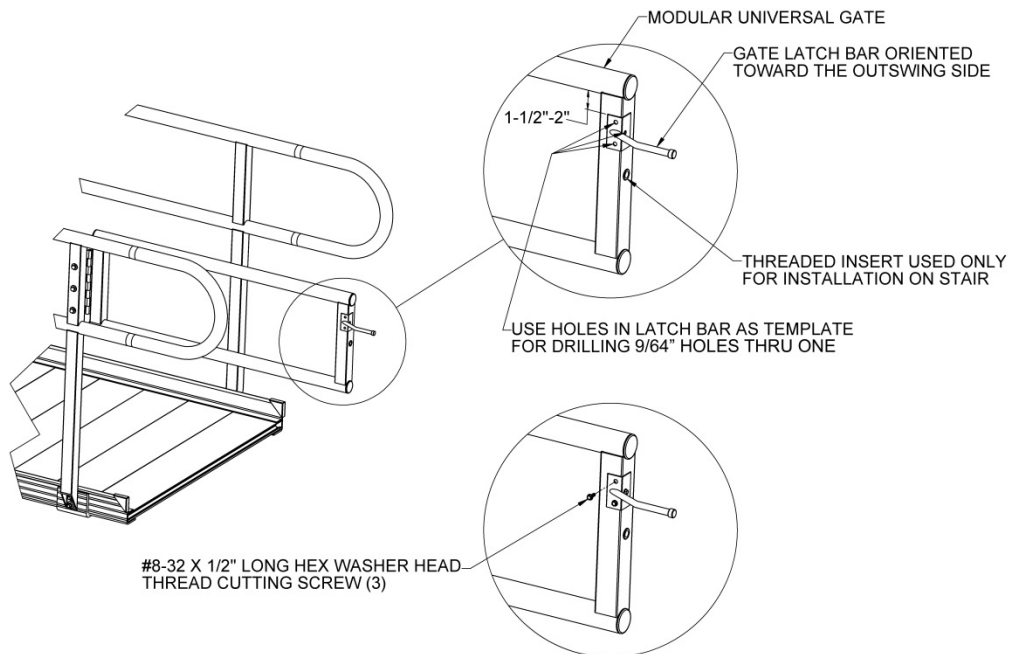

FIG. 4
- 2.7. Use the holes in the latch bar as a template and mark the hole centers with a pencil or similar marker. Drill three 9/64" holes through one wall of the tube at the marked locations (FIG. 4).
- 2.8. Attach the latch bar to the gate using three #8-32 x 1/2" long hex washer head thread cutting screws (FIG. 4).